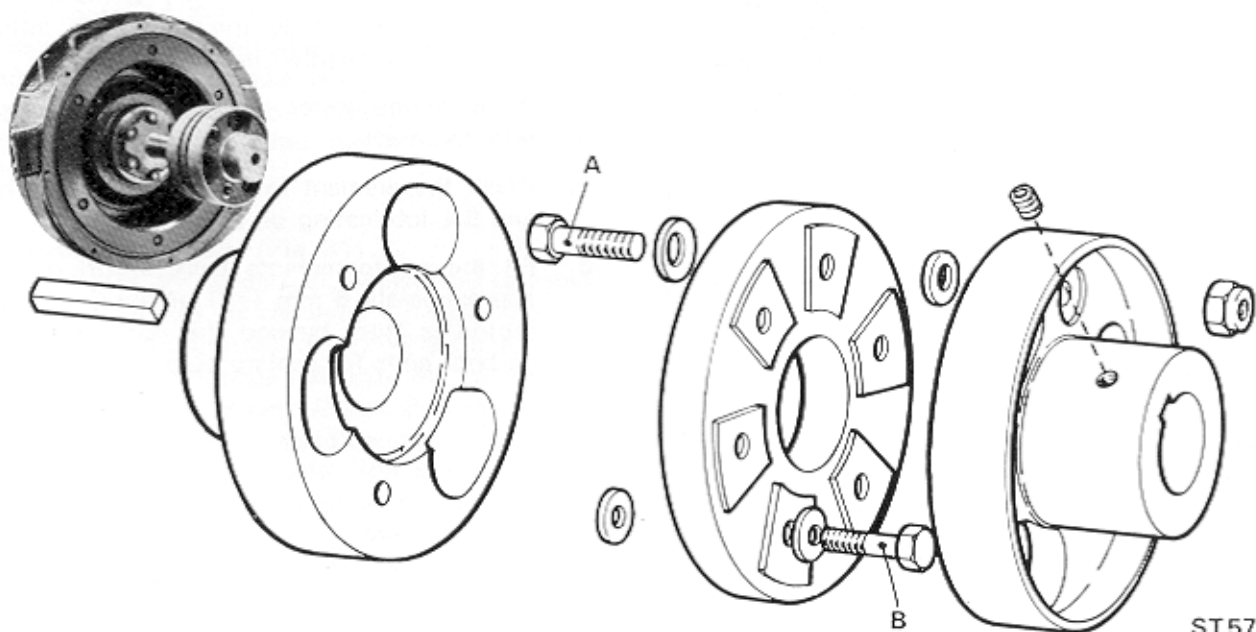

Fig. 85. Flexible Whole Coupling
**FLEXIBLE WHOLE COUPLING (Fig. 85)**